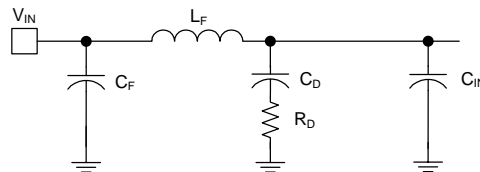

Figure 29. Input EMI Filter
Referring to Figure 29, the purpose of R_D is to reduce the peak output impedance of the filter at the cutoff frequency. The capacitor C_D blocks the dc component of the input voltage, and avoids excessive power dissipation on R_D . The capacitor C_D should have lower impedance than R_D at the resonant frequency, with a capacitance value greater than 5 times the filter capacitor C_{IN} . This will prevent it from interfering with the cutoff frequency of the main filter. Added damping is needed when the output impedance is high at the resonant frequency (Q) of filter formed by C_{IN} and L_F is too high):